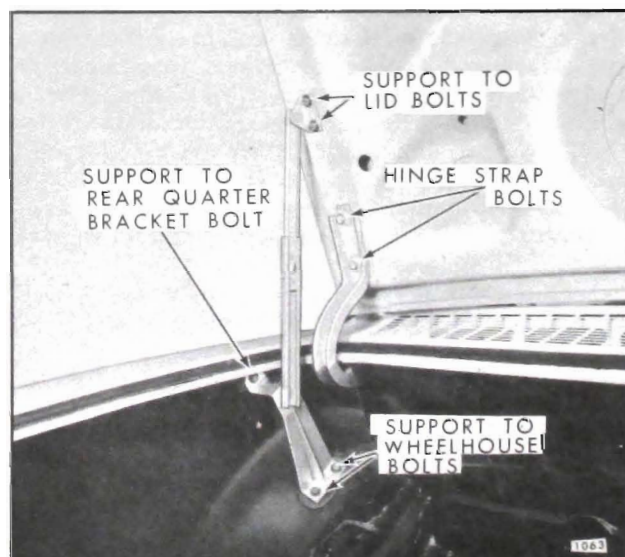

Fig. 8-4—Engine Compartment Lid Support
3. With the aid of a helper holding lid in open position, remove lid support attaching bolts from lid (See Fig. 8-4).
4. With lid properly supported, remove hinge strap attaching bolts and remove engine compartment lid from body (See Fig. 8-4).
2. Remove the two attaching bolts securing support to lid, the two bolts securing support to wheelhouse and the single bolt securing support to rear quarter bracket (see Fig. 8-4) and remove support from body.